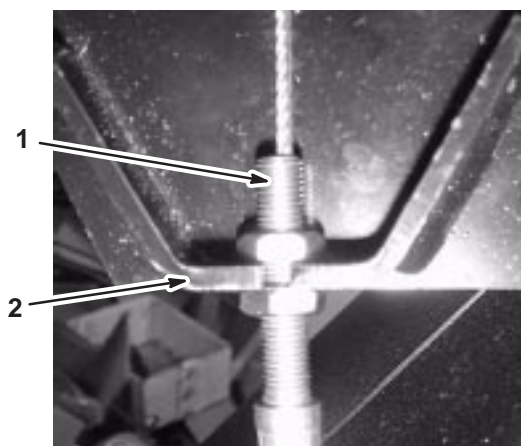

Figure 12
- Lightly tighten the nuts on the adjustment collar around the bracket on the lever plate (Fig. 12).
4. If the brake bars move, are too close to the wheel hub when disengaged, or do not fully engage the slots in the wheel hub when engaged, correct it by adjusting the two jam nuts on the cable (Fig. 12).